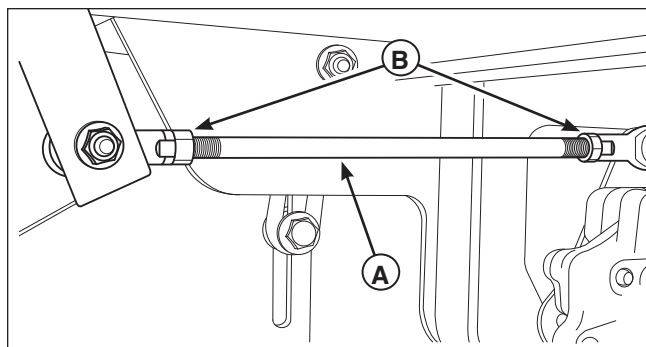

Figure 34. Neutral Return Adjustment
2. There are two nuts (B, Figure 34) on the linkage rod. Loosen the nuts from the ball joints and turn the linkage rod (A) to adjust. If the machine creeps forward, turn the rod CLOCKWISE (while standing at the rear of the machine, facing forward), if the machine creeps backward, turn the rod COUNTERCLOCKWISE.
3. Lock the nuts (B) against the ball joints when neutral is achieved.